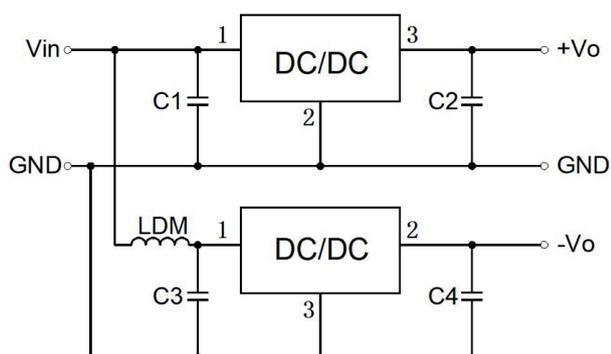

Figure 3
- When the product is used in the application circuit shown in Figure 3, it is recommended to add inductor LDM to reduce the interference between products. The recommended value of LDM is 10μH.